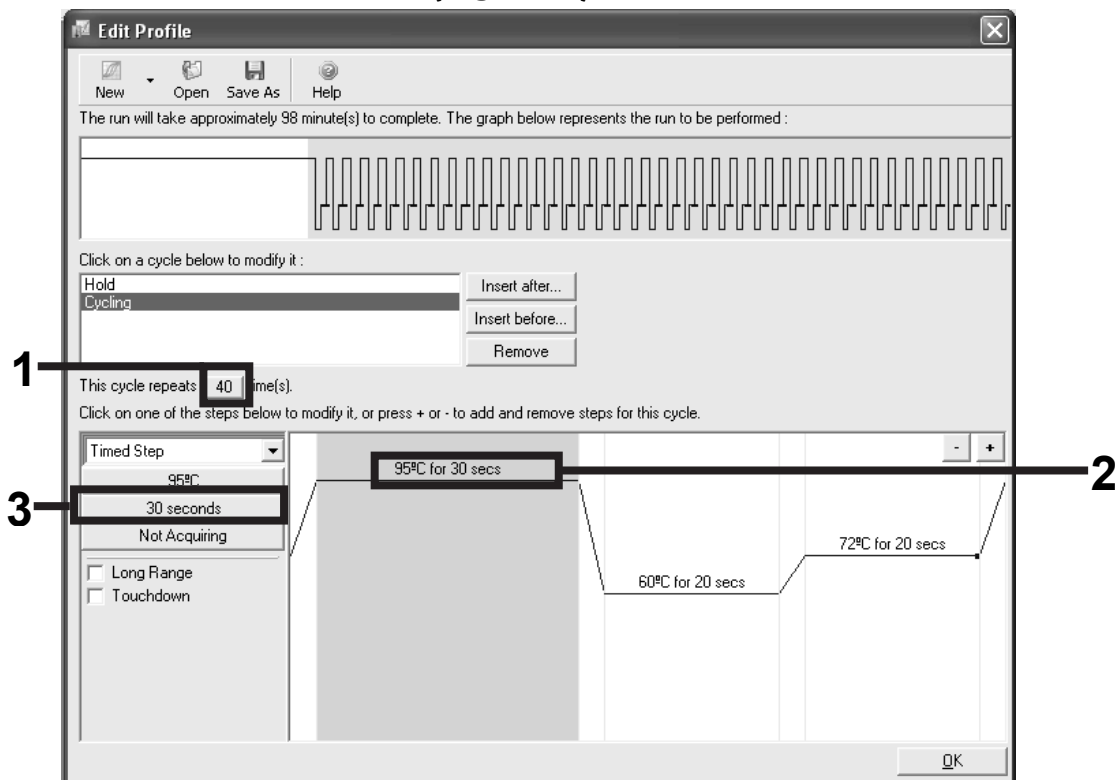

Figure 6. Cycling step at 95°C.
- Change the number of cycle repeats to 40. Select the first step and set to 95°C for 30 secs (Figure 6).